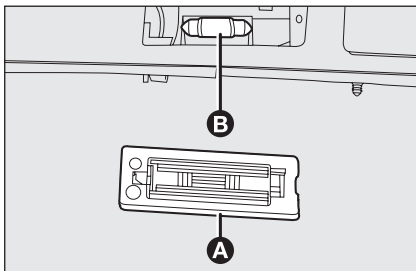

fig. 36
- remove the transparent **A-fig. 36** and the bulb **B** from the bulb holder;